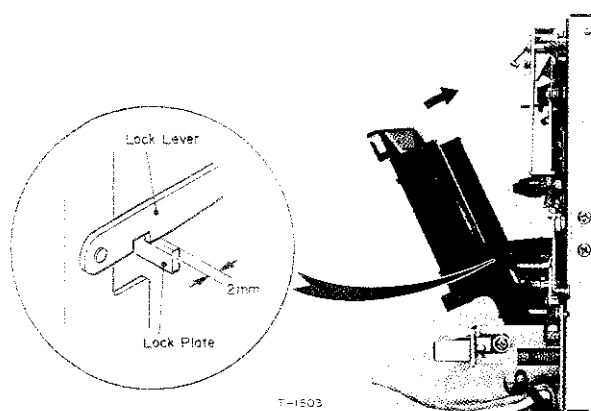

Fig. 5-8 Tape Light Switch Positioning (2)
1. Be sure that when closing the cassette holder, the tape light switch (HOLDER IN) (S8) closes to light the cassette background lamp when the lock lever is about 2 mm in front of its locking position on the lock plate. See Fig. 5-8.